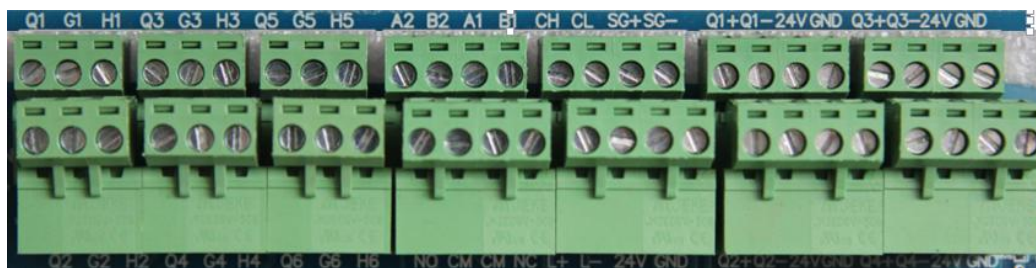

Fig. 6-1
6.4.2.1 Part structure of direct control output is shown as Fig. 6-1.